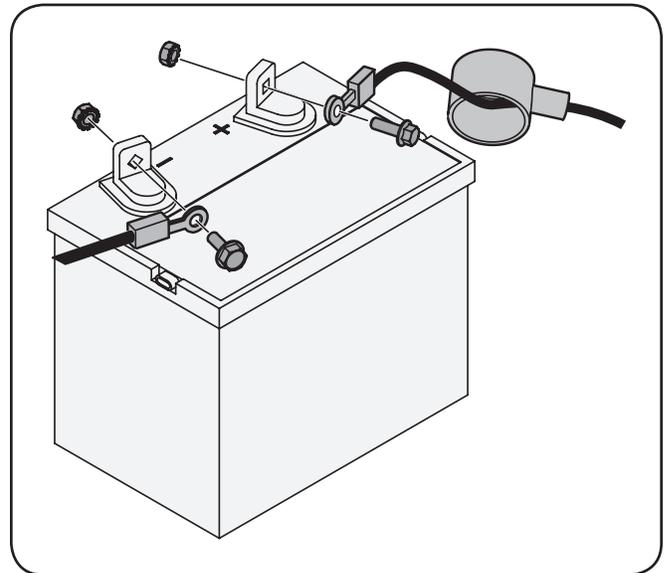

Figure 3-6
1. Remove the plastic cover, if present, from the positive battery terminal and attach the red cable to the positive battery terminal (+) with the bolt and hex nut. See Fig. 3-6.
2. Remove the plastic cover, if present, from the negative battery terminal and attach the black cable to the negative battery terminal (-) with the bolt and hex nut. See Fig. 3-6.